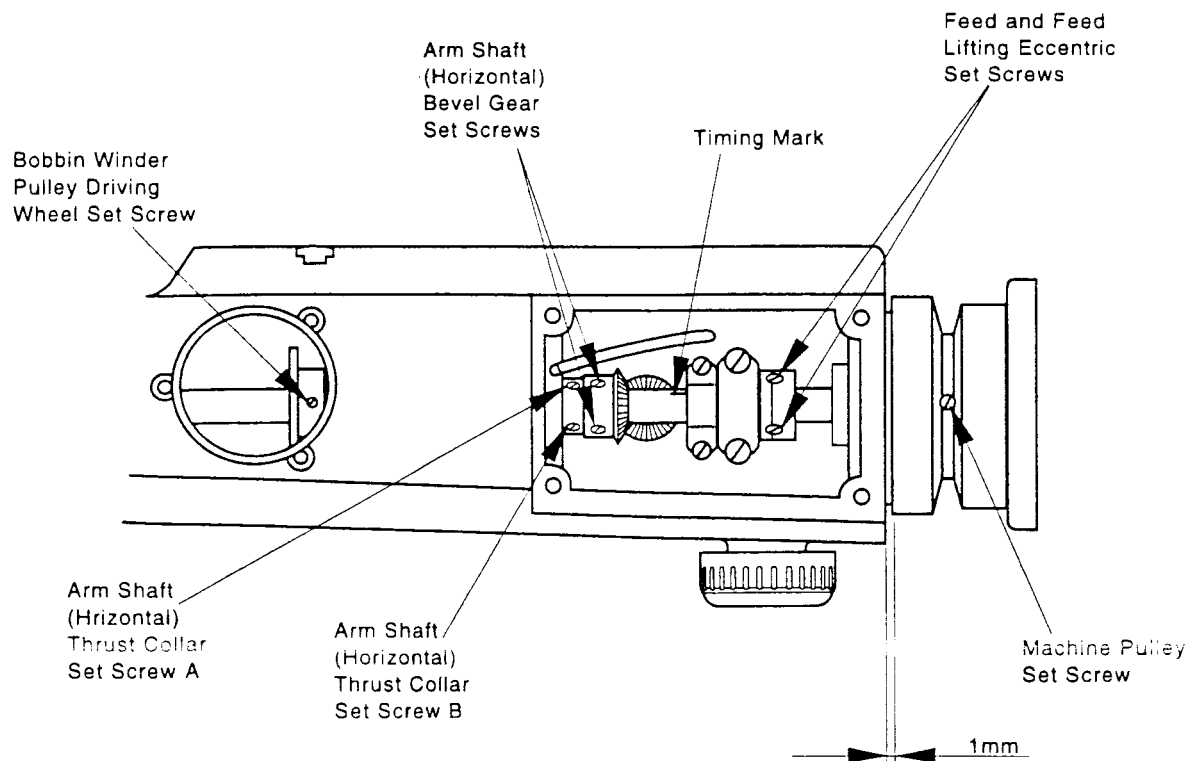

Fig.30
5. Turn machine pulley over toward you until the two set screws in the thrust collar are at top as shown in Fig. 30. Align and securely tighten the upper set screw A (set screw which appears immediately after the first set screw when machine pulley is rotated over toward operator) on the longer timing mark provided for it on the arm shaft to give minimum end play in arm shaft. Turn machine pulley and test the arm shaft for freeness in rotation.
6. Set machine pulley in position so that there is 1mm clearance between machine pulley and end face of arm, as shown in Fig. 30.